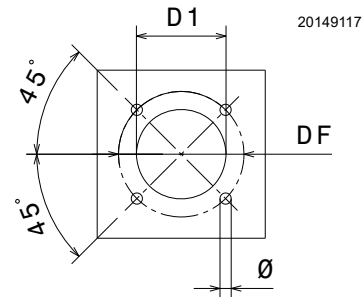

Fig. 12
Pierce the closing plate of the combustion chamber, as in Fig. 12. The position of the threaded holes can be marked using the thermal insulation screen supplied with the burner.
- Fit the entire burner onto the boiler hole prepared previously (Fig. 12), and fasten with the screws supplied.